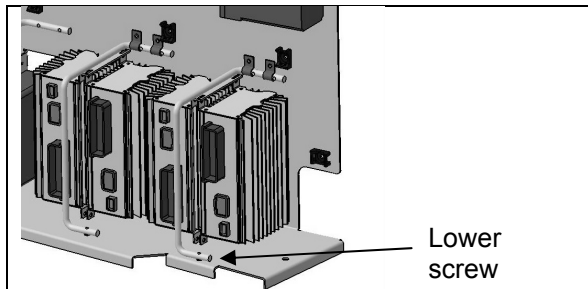

FIGURE 16: IO-B MODULE REMOVAL
- Replace the module (for IO-B modules, disconnect the green connector first, then the grey one and finish with the black connector. To disconnect the black connector, slide downwards the red latch. Remove the lower screw that holds the cable attachment rod onto the floor portion of the panel and flip the rod up, this will relieve the IO-B module, see Fig. 16).